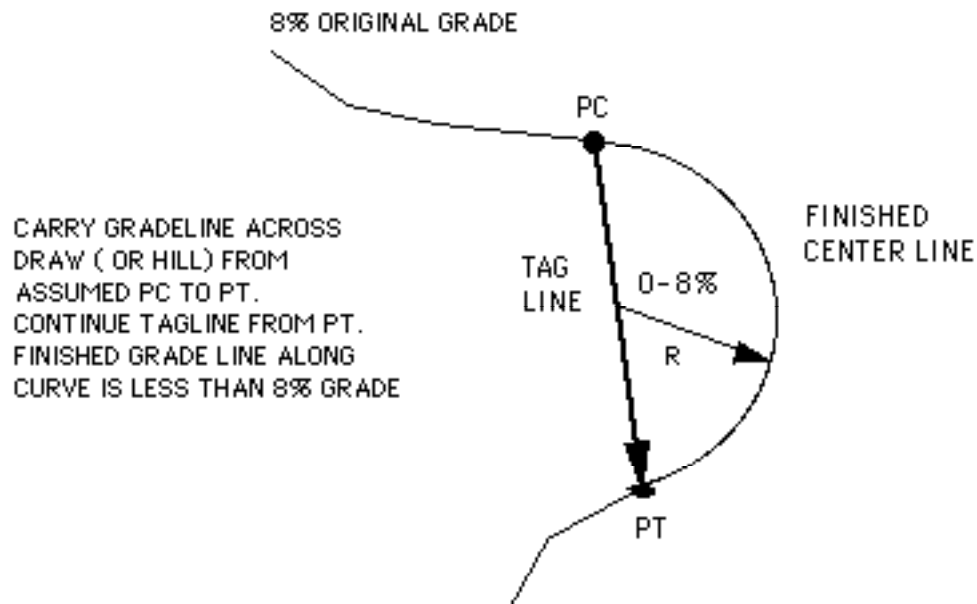

Figure 18. By sighting across draw at 0 percent grade, the desired curve is laid out without increasing the grade.
1. In the case of steep draws, run the desired grade into the draw until the opposite hillside is at a distance equal to twice the minimum radius. Now, sight across the draw at zero grade, find that point on the other hillside and continue from that point with the original grade (Figure 18).